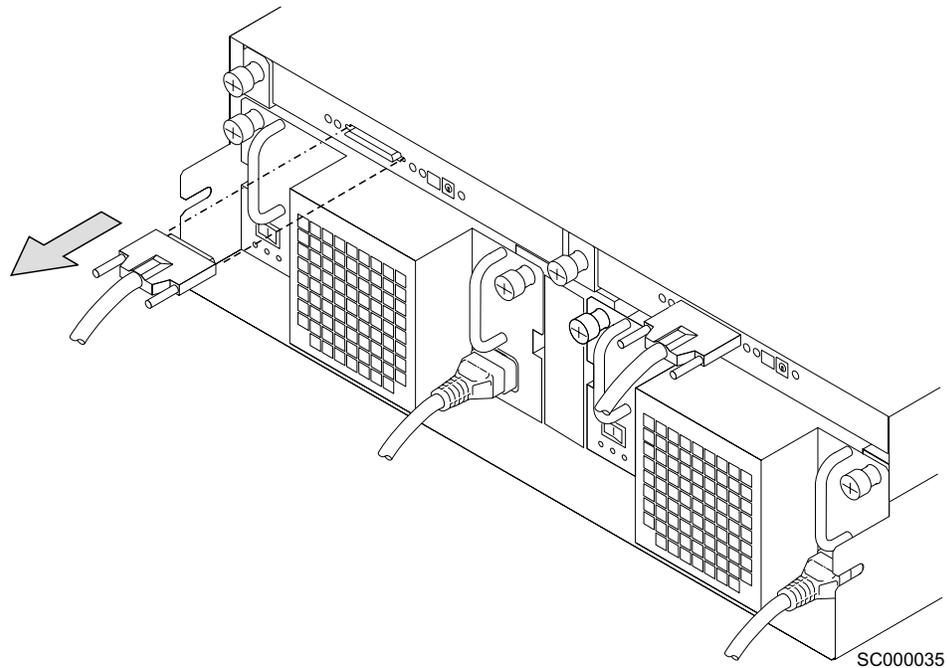
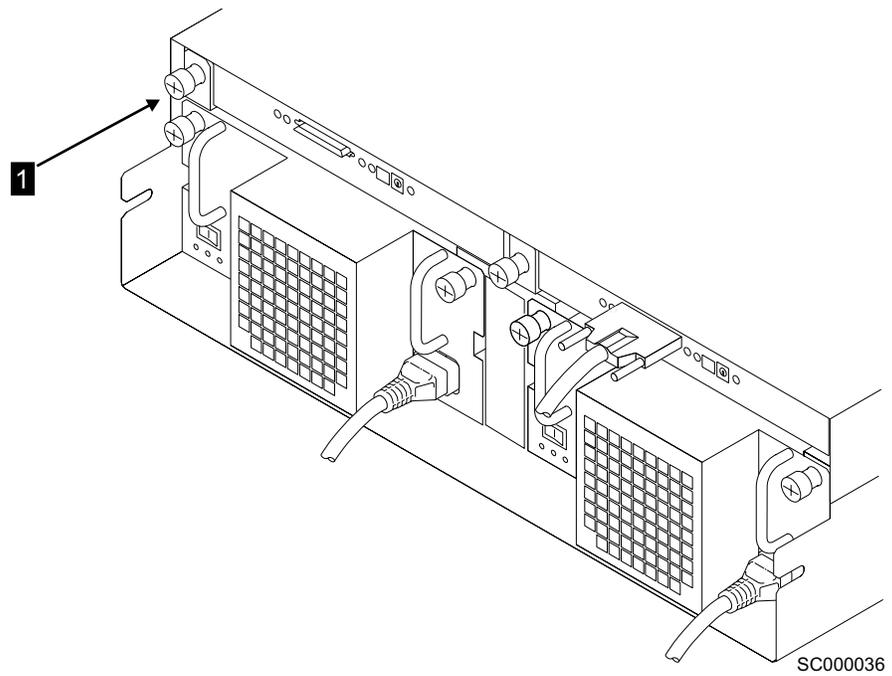

Figure 69. Removing the SCSI cable
Figure 70. Unscrewing the SCSI Interface card
Figure 69 and Figure 70 on page 59 show a 2104 Model DS4. The steps for exchanging a SCSI Interface card assembly in a 2104 Model TS4 are the same, but the parts are turned 90 degrees.
1. Unscrew and unplug the SCSI cable. See Figure 69.
2. Unscrew the thumbscrew **1** on the failing SCSI Interface card. See Figure 70.